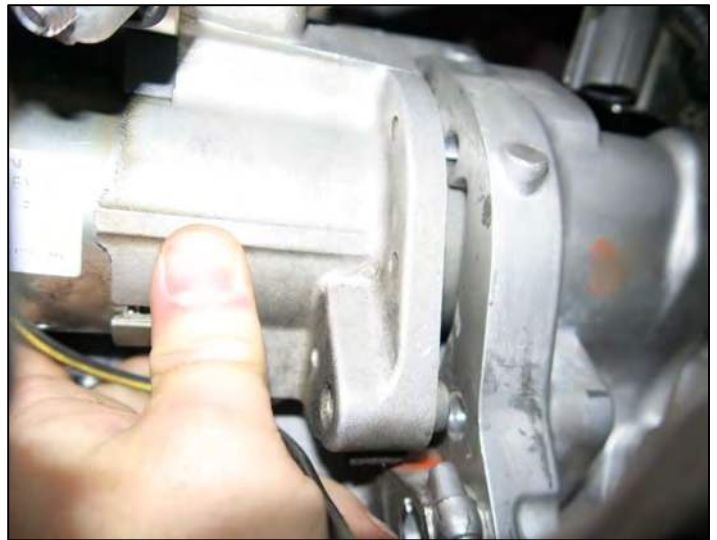

Figure 90
90. Move the starter motor into position in the transmission housing, making sure to align the starter motor dowels with the bolt holes in the transmission case. (Figure 90)
- Torque the (2) starter motor bolts to 48 N•m(4.9 kg-m, **35 ft-lbs**)